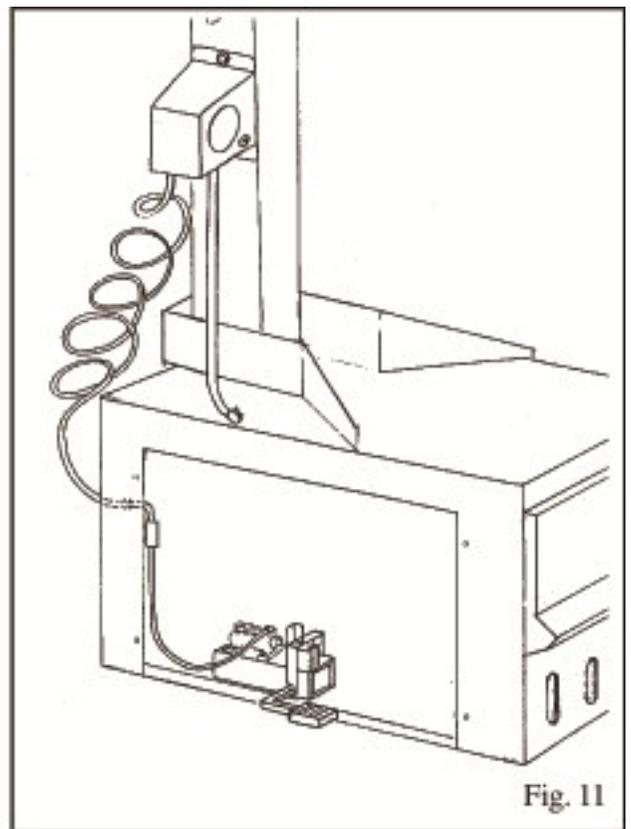

Fig. 11
- Fix the manometer to the vertical arm through the proper screw. Fig. 11.